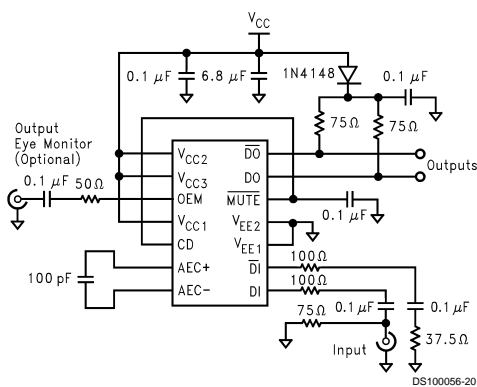

FIGURE 1. CLC014 Equalizer Application Circuit
Carrier Detect (CD) is a CMOS output that indicates the presence of equalized data from the filter. This CD output can be connected to **MUTE** to suspend changes in the data outputs DO and D0, if no valid signal exists. This simple configuration prevents random output transitions due to noise. For sparse transition patterns it is recommended that a capacitor be connected to CD as shown in *Figure 1*.
The OEM is a high-speed, buffered output for monitoring the equalized eye pattern prior to the output comparator. Its output is designed to drive an AC-coupled 50Ω coaxial cable with a series 50Ω backmatch resistor. The cable should be terminated with 50Ω at the oscilloscope. *Figure 1* shows a schematic with a typical connection.
The CLC014 operates from either +5V or -5.2V single supplies. Refer to *Figure 1* when operating the part from +5V. When operating with a -5.2V supply, the V_{EE} pins should be bypassed to ground. The evaluation board and associated literature provide for operation from either supply.